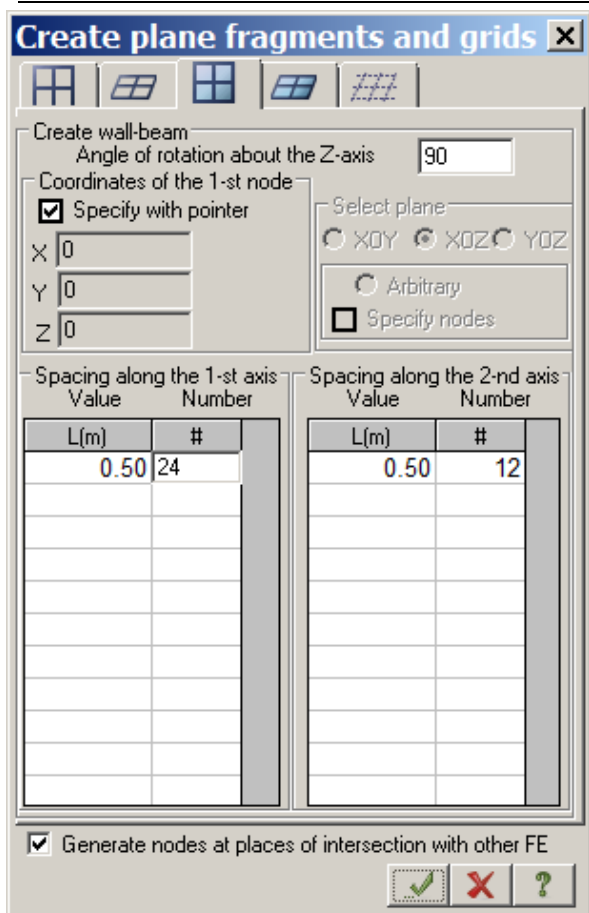

Figure 11.5 Create plane fragments and grids dialog box
- ⇒ In the **Create plane fragments and grids** dialog box (see Fig.11.5), specify **angle of rotation about the Z-axis** as equal to 90 degrees.